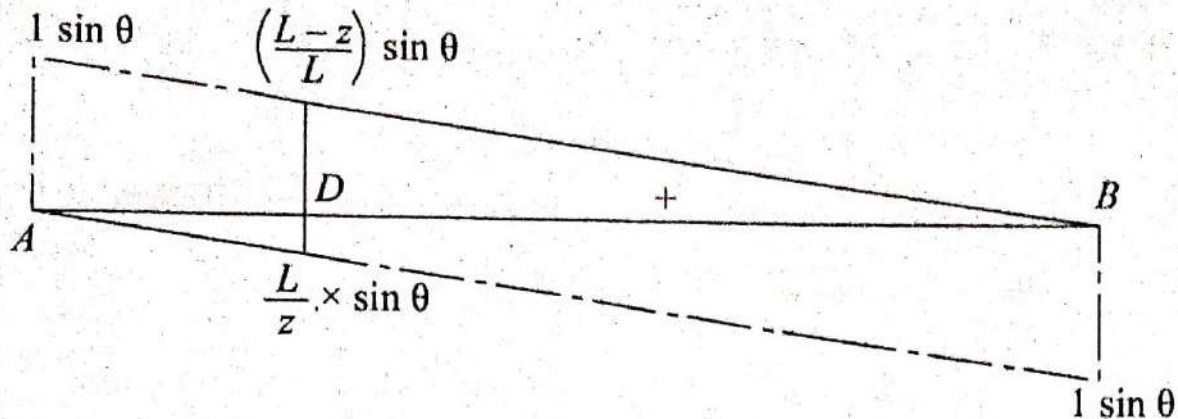

Figure 8: ILD for $V \sin \theta$
- Since, V is the vertical shear at D , which is same as that in an equivalent beam, $V \sin \theta$ diagram is shown in Figure 8.